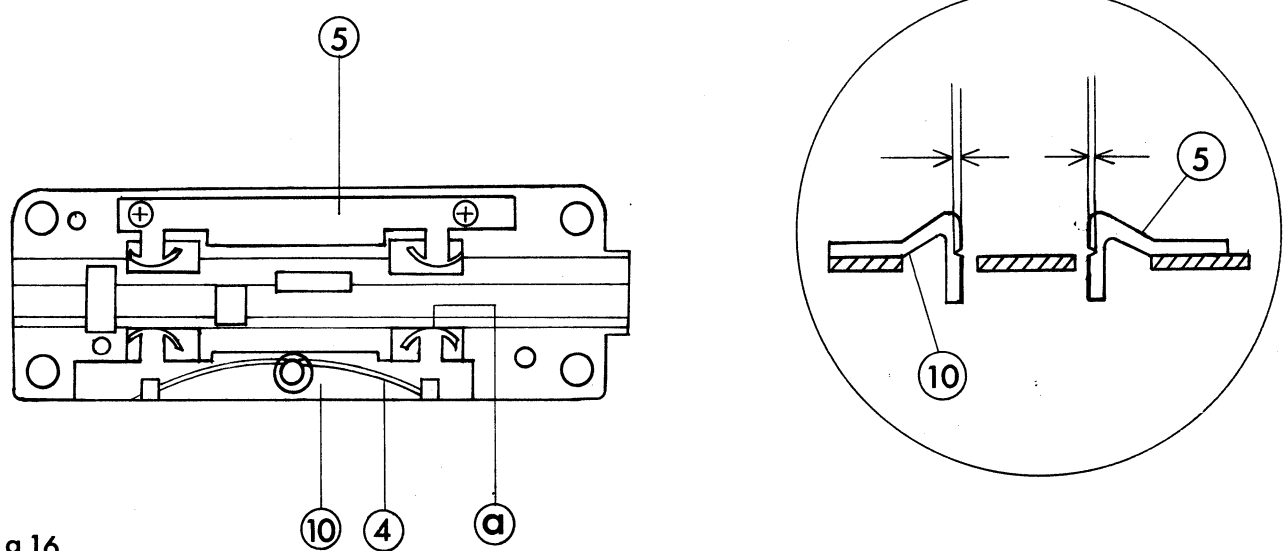

Fig 16
Make sure that (5)(10) are not worn as shown in Fig.16.
2. Attach (5) of Fig.16 in place where no picture lean and slipping off right and left appear, using the resolving power film (P054).